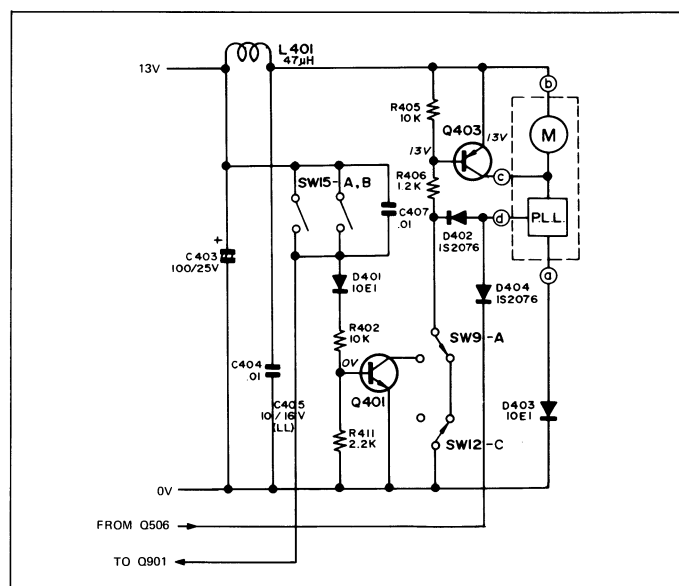

Figure 20
■ **MOTOR CONTROL CIRCUIT**(See Figure 20 and 23)